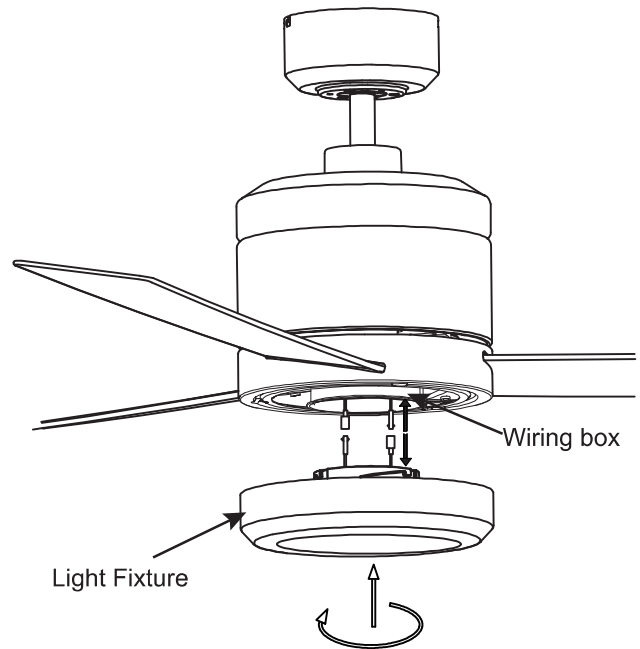

Fig.15 Counterclockwise rotation for opening
Step 1 Loosen the light fixture counterclockwise, then loosen the two lamp wires.(Fig.15)